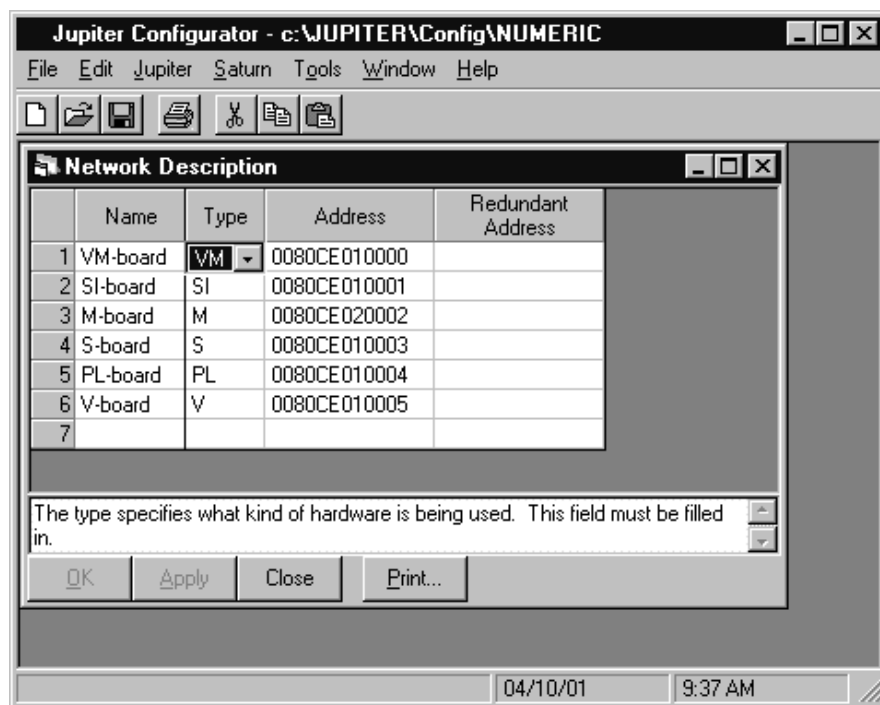

Figure 5–1.
- To access Jupiter tables, use the “Jupiter” pull-down menu. For example, if you select the Network Description table the display will be similar to the following (Figure 5–1).